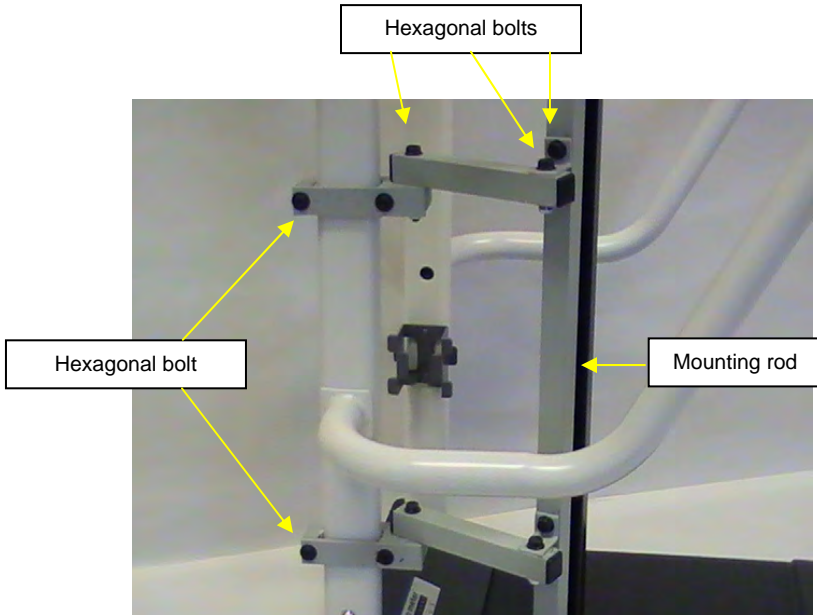

Figure 3
3. Hexagonal bolts are used to fasten the unit together. Ensure that all hexagonal bolts are slightly loosened (see Figures 3 - 4).
7. Hold the mounting rod in position next to the handrail, and position/assemble both brackets onto the handrail. Ensure that the mounting rod is resting on the scale platform (see Figures 3 - 4).